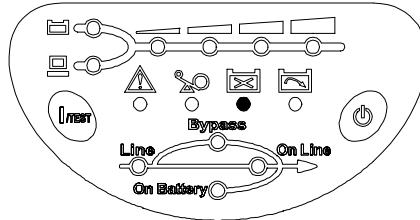

Fig 4-7 Battery Replace
- BATTERY REPLACE:** This LED function is to alert user that the batteries should be replaced. When the microprocessor in the UPS detects a battery fault, the UPS alarm will give out three beeps. Each beep lasts for 0.5 seconds and interrupted by an interval of 0.5 seconds. After the initial 3 beeps, the alarm will continue to sound every one hour. Shown as fig 4-7.